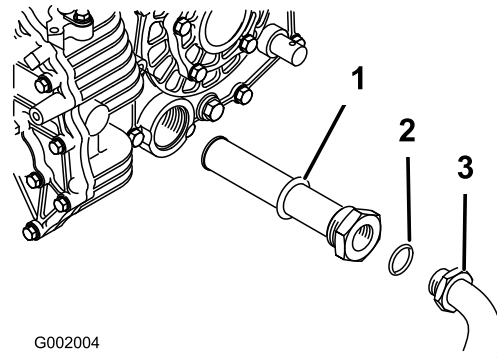

Figure 65
5. Remove the hydraulic hose and 90 degrees fitting (Figure 65).